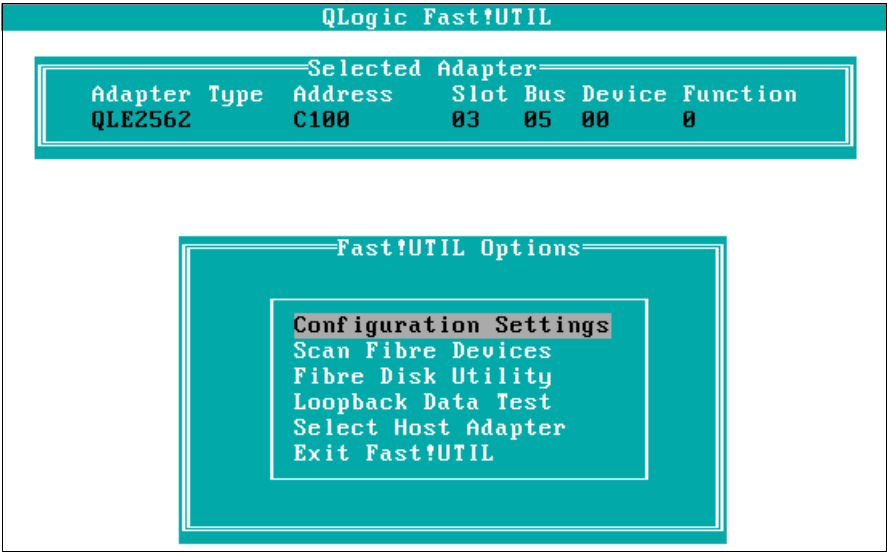
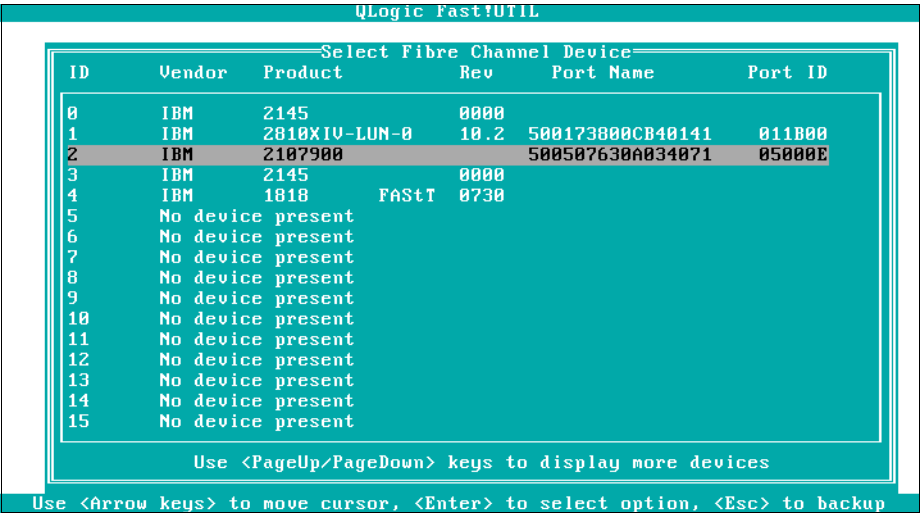

Figure 3-13 Configuration Settings
Figure 3-21 Select Boot Volume
5. Select **Configuration Settings**, as shown in Figure 3-13.
- From the Configuration Settings panel (Figure 3-13 on page 136) of your host, select **Scan Fibre Devices**. You should see the DS8000 Subsystem host-port WWPN, as shown in Figure 3-21 on page 140.
12.Now click the (Primary) Boot Port Name to select the source LUN for SAN Boot, as shown in Figure 3-21. Here, IBM 2107-900 means that it is a DS8000 Subsystem.